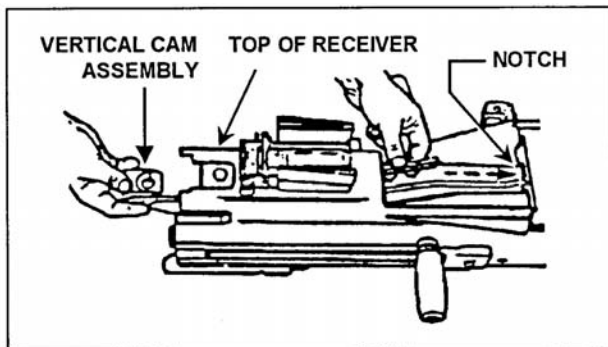

Figure 071-030-0001-22. Engagement of the vertical cam assembly
- h. Engage the vertical cam assembly (figure 071-030-0001-22).